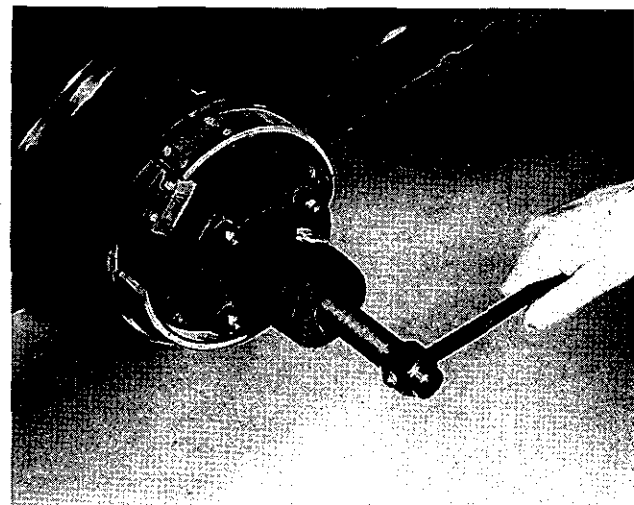

Fig. 3. Extracting Rear Hub with Tool No. M.86.
6. The hub can now be extracted from each axle shaft after removal of the castellated nut, washer and taper collar. Alternatively the hub can be extracted with the puller shown in Fig. 3, before removing the axle shaft.
3. Remove four  $\frac{9}{16}$ " A/F headed bolts which secure the bearing housings and brake backing plate assemblies to the axle casing. (If preferred, rear hubs may be extracted with the puller shown in Fig. 3, before removal of the bearing housings).